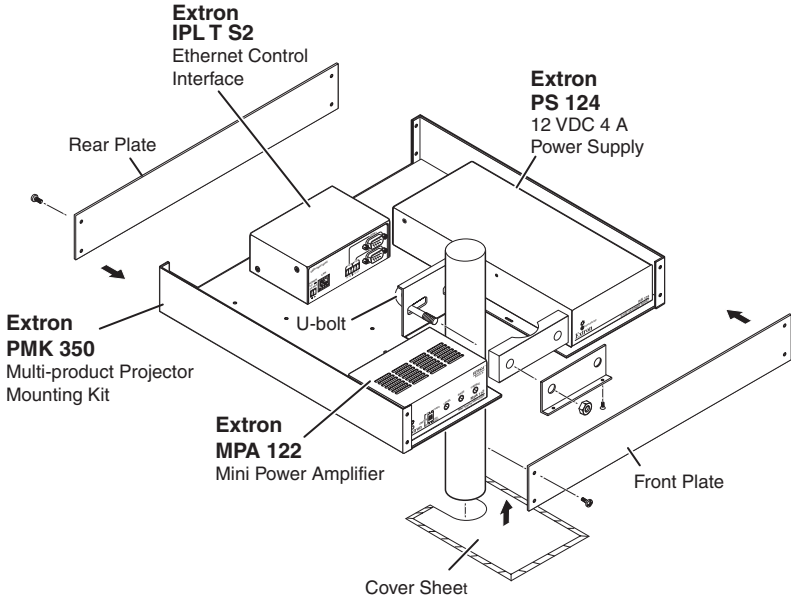

Figure 11 — Projector mounting the PS 124
The PMK 350, (part #70-563-03), is an above-projector mounting kit that attaches to a 1" to 2" diameter projector mounting pole (figure 11). It can hold multiple devices in a variety of sizes.
1. Remove the front and rear plates from the PMK 350 (figure 11). Retain the screws to reattach the plates.
4. Place the PMK 350 around the projector ceiling mounting pole (figure 11, above).
10. If desired, apply one of the cover sheets to the underside of the mounting tray (figure 11).